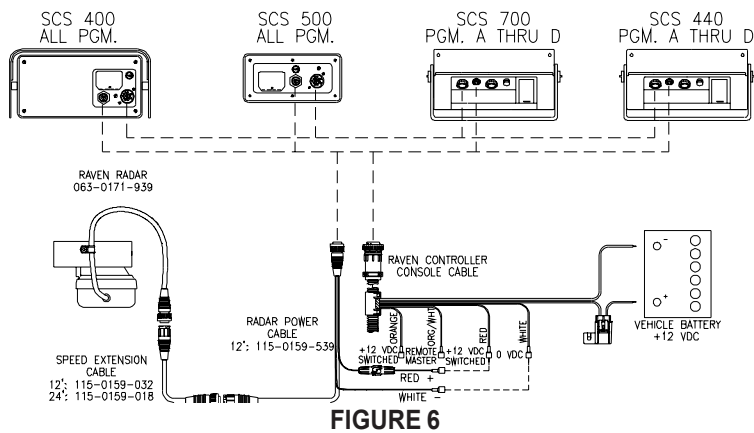

FIGURE 6
- a) For SCS 400, SCS 500, SCS 700 PGM A thru D, and SCS 440 PGM A thru D, connect radar with radar adapter (P/N 063-0159-590) to console. See Figure 6.